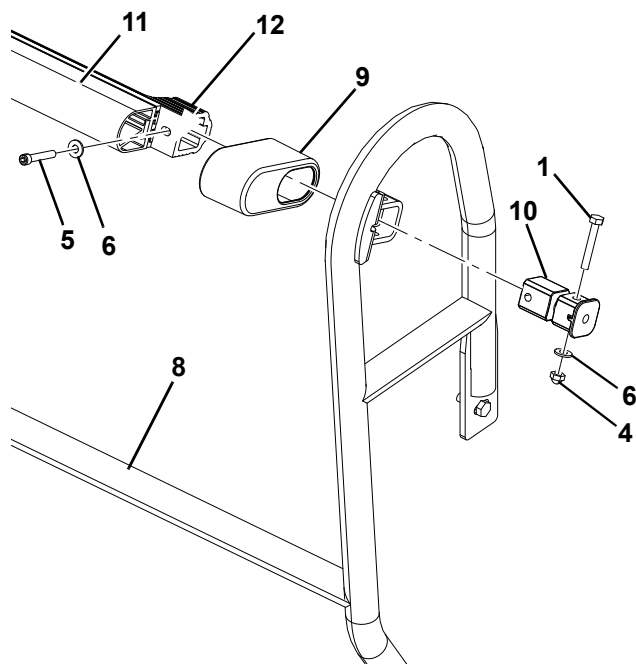

Figure 4-40.
4. Position SkyGuard switch assembly with sensor cover onto the SkyGuard Support Bracket (**8**) as shown in Figure 4-40..
5. Insert a Shear Block Support (10) through shear block housing on the SkyGuard support bracket and into the platform sensor mount. See Figure 4-40.
6. Secure the shear block on welded mount of SkyGuard support bracket using Bolt (1), relevant Washer (6) and Acorn Nut (4) as shown in Figure 4-40.
7. Secure the SkyGuard switch assembly using Bolt (5) and relevant Washer (6) on platform sensor mount. See Figure 4-40.
WHEN THE SKYGUARD IS PUSHED WITH EXCESSIVE FORCE THE SENSOR SUPPORTS (ITEM 10 - FIGURE 4-40.) WILL BREAK. REPLACE WITH NEW SENSOR SUPPORTS BEFORE CONTINUING OPERATION OF THE MACHINE.